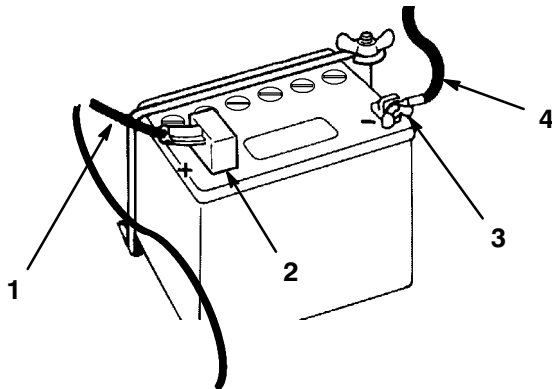

Figure 29
1. Install the battery into the chassis (Fig. 29).
3. Using the bolt and wing nut, connect the positive (red) cable to the positive (+) battery post (Fig. 29). Slide the rubber cover over the battery post.
4. Using the bolt and wing nut, connect the negative (black) cable to the negative (-) battery post (Fig. 29).